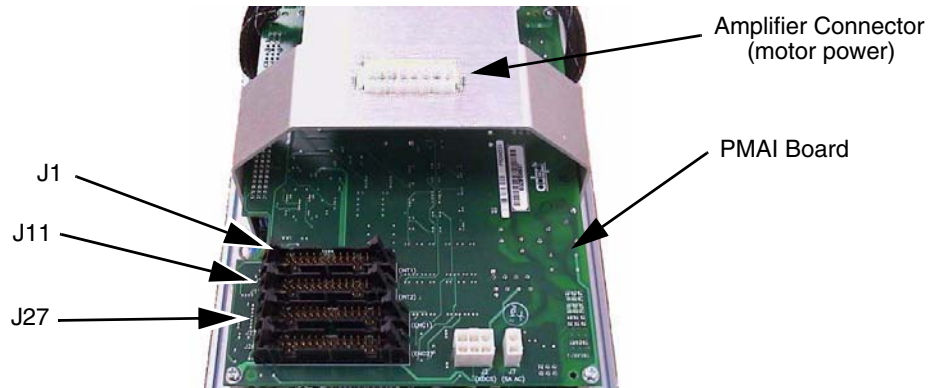

Figure 8-3. Connectors on AIB Chassis
7. Connect the white amplifier cable (motor power) to the amplifier connector located on the chassis bracket. See **Figure 8-3**.